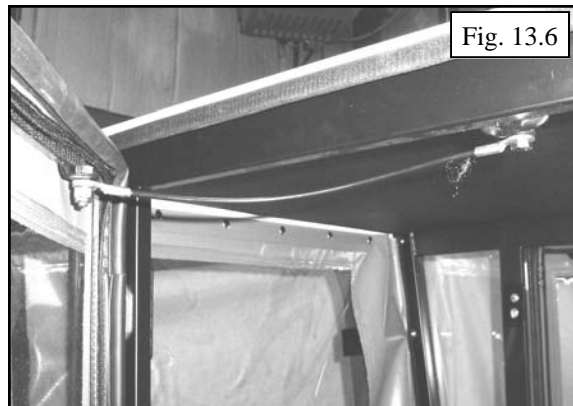

Fig. 13.6
13.6 Install the supplied cable door stops between the bracket on the door and the bracket on the side frame, see figure 13.6. Tighten hardware to engage the nylon lock nuts but loose enough to allow the cable ends to pivot.